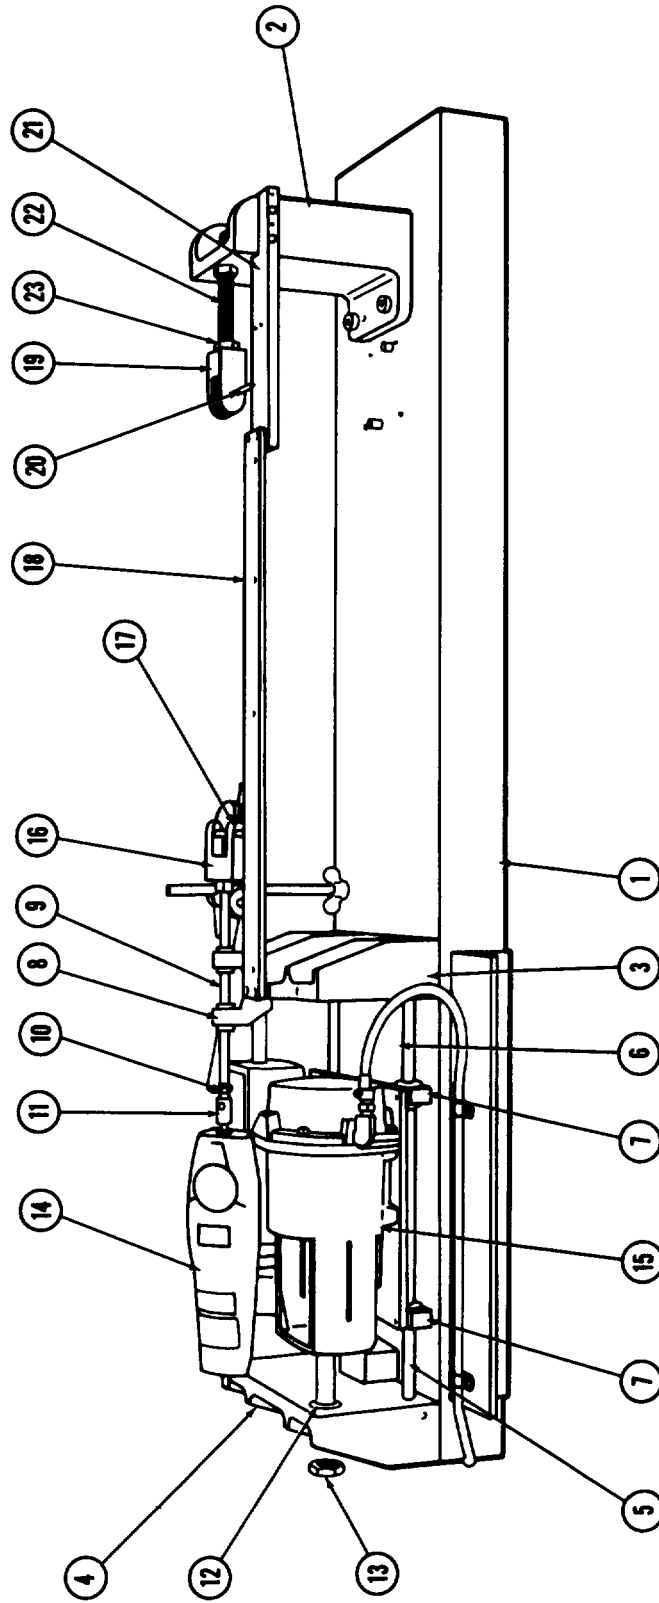

Figure 6. Load Travel (Test) Fixture
*p.* Assemble end cap (4) to housing (45). Remove screw (3) holding motor. Apply sealer to mating surface of housing (45). Position end cap (4) over filter and bearing to mating surface. Be careful not to crush insulator (16) between mating surfaces. Assemble two screws (3) through end cap and into threaded holes of motor end cap. At this time check bearing shims as specified.
*q.* Assemble one each, nut (38) and washers (39) to three threaded studs on terminal block.
*r.* Assemble anchor (2) to housing (45). Apply a very thin film of sealer (item 8, table 3) to mating surface on end cap (14). Keep sealer away from bearing (5). Position anchor and assemble four screws (1).
*s.* Assemble rod end bearing (20) to movable tube (32). With rounded side of nut (21) facing anchor end of bearing, start threaded end of anchor into nut. A minimum of 7/16-inch of threads must be left between nut and anchor end. Start anchor threads in movable tube (32). Thread into movable tube until nut and end of movable tube meet. Do not tighten nut at this time.
*f.* Secure rod end bearing (20) in position. Position anchor (2) on stationary end of fixture (figure 6). With nut on rod end bearing finger tight, 7/16-inch threads must be showing from nut to bearing end. Position bearing end into fixture next, tighten thumb screw, and use wrench to tighten nut against movable end.
(1) With power supply in OFF position, attach connector to the unit.
(2) Install unit in load travel (test) fixture.
Mount the linear actuator in a load travel fixture (figure 6). Loosen nut (22, figure 3) and turn adjusting screw (30) clockwise to full stroke position. Tighten lock nut, Perform the following operational tests.